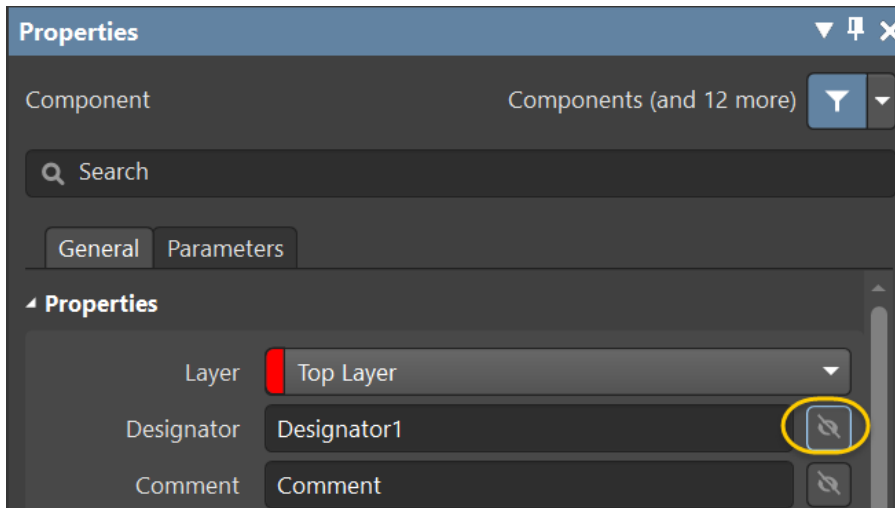

Figure 23. Hide footprint designator
43. Click on the eye icon next to the *Designator* field to hide it as shown in Figure 23. You'll notice that the `Designator1` value will no longer be visible in the PCB.